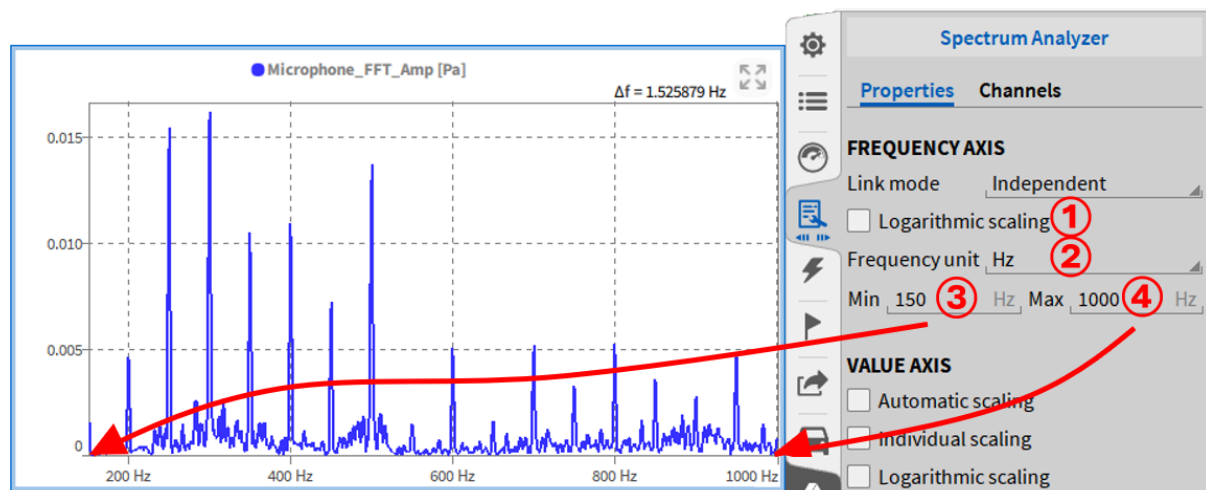

Fig. 8.54: Frequency axis settings
The unit of the X-axis is Hertz [Hz] per default (see ② in Fig. 8.54). The unit can be changed to Cycles Per Minute [CPM] which is defined as [Hz] * 60. The axis' minimum can be freely defined (see ③ and ④ in Fig. 8.54). The scaling can optionally bet set from linear to logarithmic scaling (see ① in Fig. 8.54).